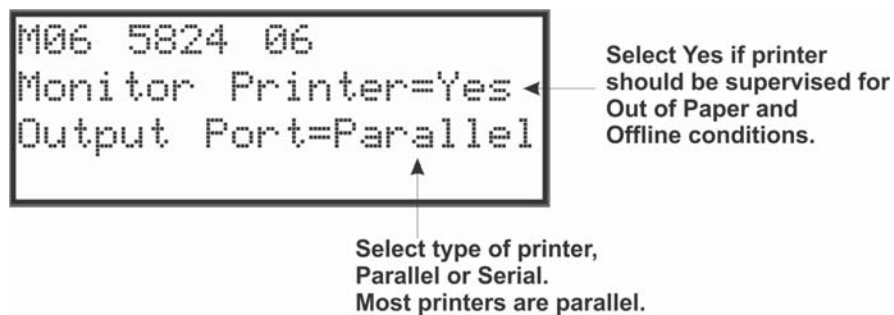

Figure 4-19 Selecting Printer and Output Port Options
5. The right arrow must be pressed twice to skip over the Enter Module ID and Enter Module name options. A screen similar to the one shown in Figure 4-19 will display.